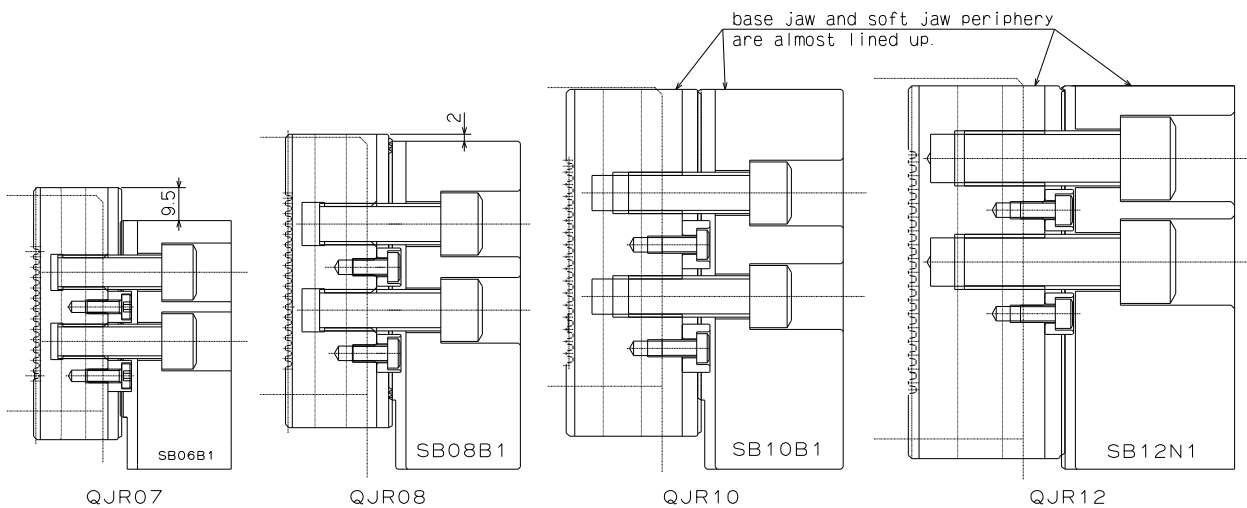

Fig.6
- The base jaw and soft jaw are attached to the position refer to Fig.6.